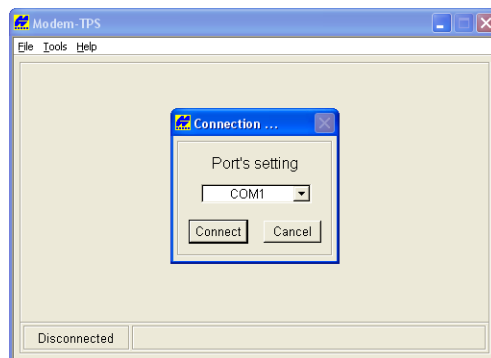

Figure 2-19. Connect to Modem-TPS
3. Open Modem-TPS and select the COM port the receiver is connected to (Figure 2-19).